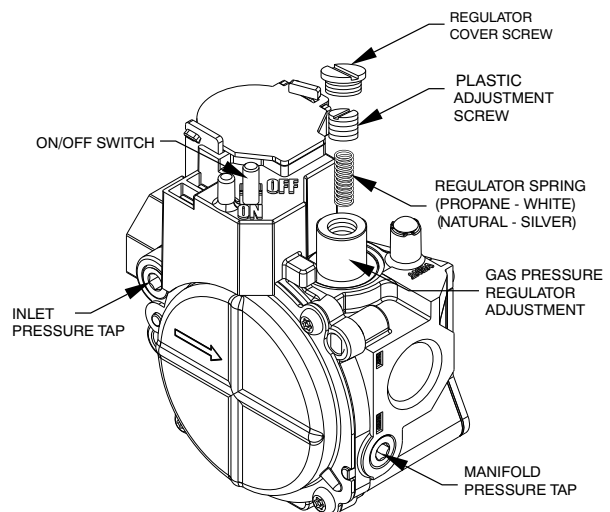
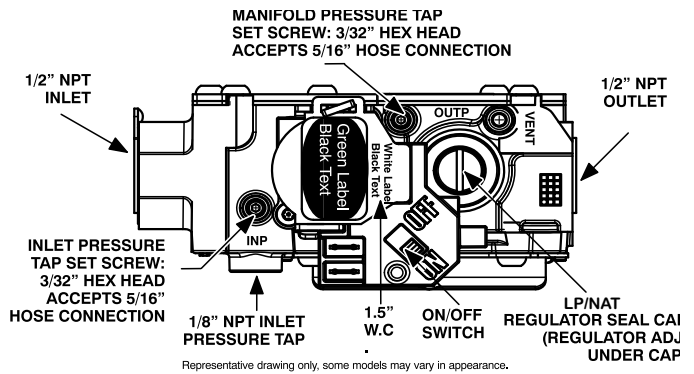

Fig. 13 – Standard Single-Stage Gas Valve
Fig. 14 – Single-Stage Gas Valve with Tower Pressure Ports
- a. For standard gas valves, remove manifold pressure tap cover using an allen wrench. (See Fig. 13). Install barbed pressure tap and hose to connect to manometer. Turn on gas supply to unit.
- b. For gas valve with tower pressure ports, loosen set screw on manifold tower pressure tap no more than one full turn with a 3/32-in. hex wrench. (See Fig. 14.) Connect manometer by sliding 5/16" connecting hose over the manifold tower pressure port. Turn on gas supply to unit.
1. Remove regulator cover screw over plastic adjustment screw on gas valve (See Fig. 13 and Fig. 14).
2. Turn plastic adjustment screw clockwise to increase gas input, or turn plastic adjustment screw counterclockwise to decrease input (See Fig. 13 and Fig. 14). Manifold pressure must be between 3.2 and 3.8 IN. WC.
3. Replace regulator cover screw on gas valve (See Fig. 13 and Fig. 14).
- a. For standard gas valve, remove manometer hose and barbed pressure tap. Replace pressure tap cover using an allen wrench. (See Fig. 13.)
- b. For gas valve with tower pressure port, remove connecting hose. Tighten set screw on manifold pressure port using a 3/32" hex wrench. (See Fig. 14.)